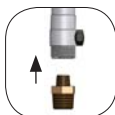

fig. 4
3. Thread tape and attach brass nipple (4) to the bottom part of MFCV (ref fig 4).